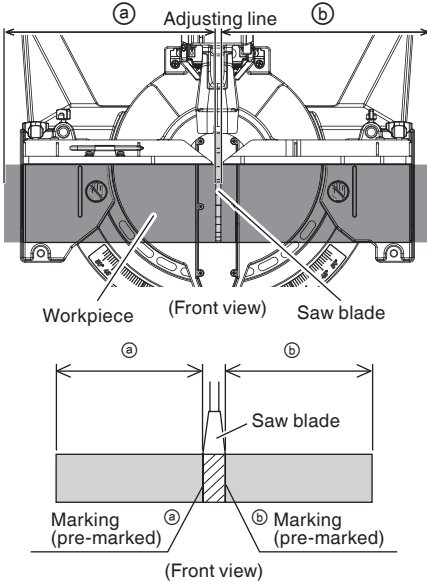

Fig. 20
- (1) As shown in Fig. 20 the width of the saw blade is the width of the cut. Therefore, slide the workpiece to the right (viewed from the operator's position) when length ⑥ is desired, or to the left when length ⑤ is desired.